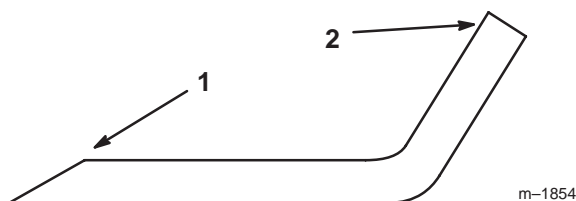

Figure 28
1. Use a file to sharpen the cutting edge at both ends of the blade (Fig. 28). Maintain the original angle. The blade retains its balance if the same amount of material is removed from both cutting edges.
blade is not balanced, file some metal off the end of the sail area only (Fig. 28). Repeat this procedure until the blade is balanced.